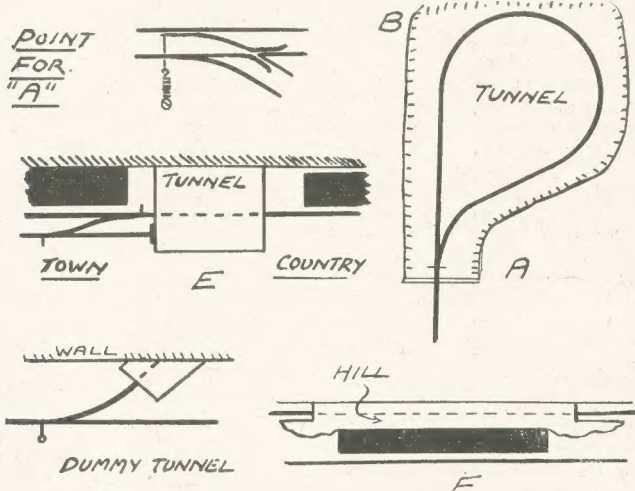

Fig. 1—Some examples of track layout and tunnels
A tunnel can be very helpful where it is necessary to bring a train back and past a station it has just left, but stay behind it. Fig. 1 (F) shows the idea. The station is well in view of the spectator and sharply behind this rises a hill of brown paper or other material under which speeds our train, invisible to anyone looking at the line in front.
running round a circle—even if they are. And it is in the breaking down of this impression that tunnels are so useful. Look at Fig. 1. Here a line has to finish at (B) because there is no more room. You could have a station there into which the trains just run, stop and then come back. But if this position is not very far from the beginning station the line is going to look really very short.
A tunnel like this is useful, too, for a quick change in character of the line. Thus as shown in (E), Fig. 1, the left side of the division might be a busy station made up with a back-scene of town houses and factories while the right suddenly becomes pure countryside.